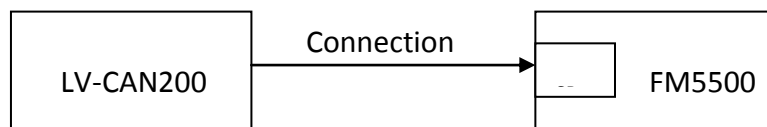
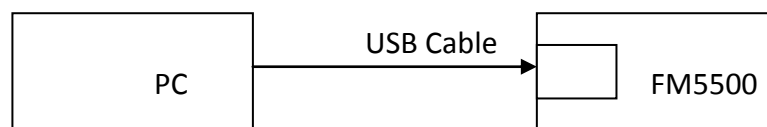

Figure 87 Connect adapter LV-CAN200 to FM5500
Figure 88 Connect FM5500 to PC and configure
SCAN function – is in use when FM5500 is connected to CAN adapter (Figure 87), then wait 10s (Note, that car engine must be started), disconnect adapter from FM5500, and connect PC USB cable to FM5500 Device (Figure 88). It is very important not to disconnect FM5500 from power source during this operation, because if FM5500 is reconnected all received CAN bus data will be lost. FM5500 remembers received data from LV-CAN200 and at the end of the procedure when “SCAN” button is pressed, user will see all CAN data which is sent by adapter. Enable CAN data which needs send to server and save configuration pressing “Save” button.
1. In car, connect LV-CAN200 to CAN bus and to the FM5500 device (Figure 87), wait 10 seconds. Note, that car engine must be started.
2. Disconnect LV-CAN200 from FM5500, and connect PC USB cable to FM5500 Device (Figure 88). It is very important not to disconnect FM5500 from power source, because then all CAN data will be lost.